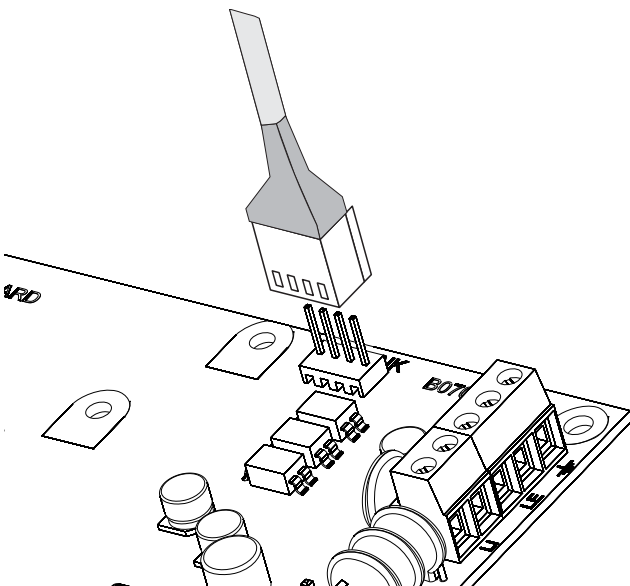

Figure 25 PC-Link connection.
1. Connect the Control Panel RS232 serial port (**10, PC-LINK**) to a free RS232 serial port on the PC using the **PC-LINK** cable (accessory item), as shown on Figure 25.